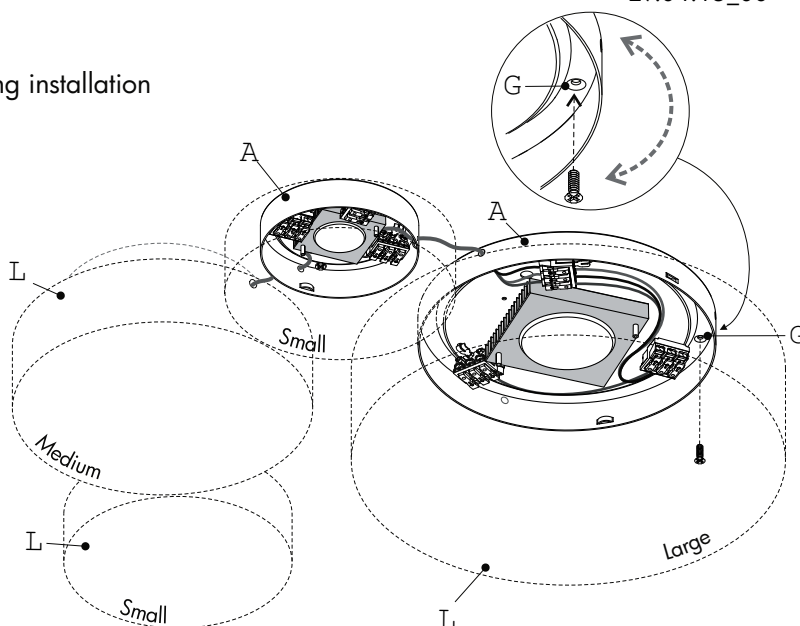

Fig.1
- 3) Install the second wall box [A]. We recommend to screw one of the fixing screws into the hole [G] (see Fig.1) and check the exact position.